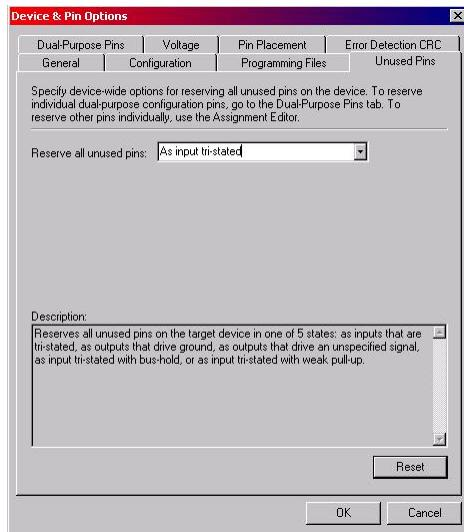

Figure A.6: Unused Pins
4. Under **Reserve all unused pins**, select **As input tri-stated**. See Figure A.6.